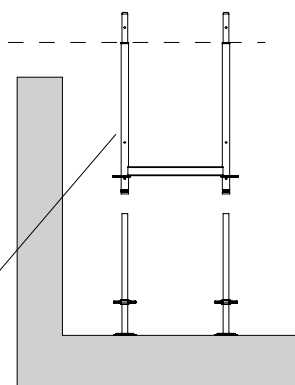

Fig. A1.01a
- Base Spindle UJB 38-80/55 with yellow quick jack nut: max. 60 cm spindling length (Fig. A1.01a)
available in 0.50 m and 1.00 m compensation heights. (Fig. A1.01a)